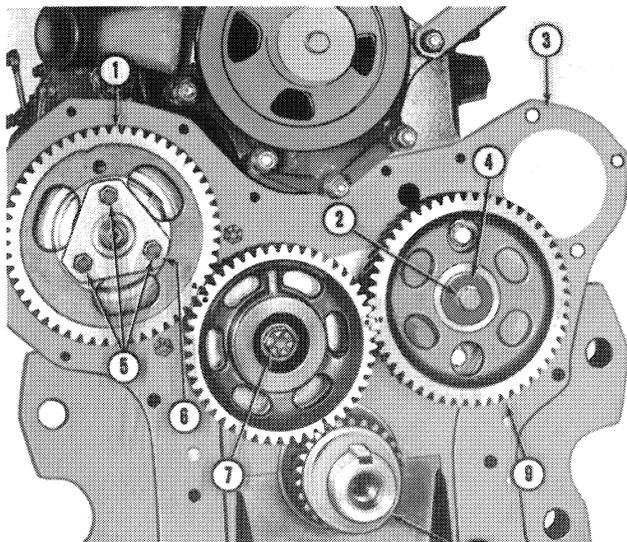

Figure 24
Turn the crankshaft until the camshaft gear is in the approximate timed position, Figure 24.
Remove the three retaining bolts that retain the injection pump drive gear, Figure 24, to the pump adapter plate and remove the gear.
1. Remove the bolt and flat washer, as shown in Figure 24.
2. Install the oil slinger dish out, Figure 24.